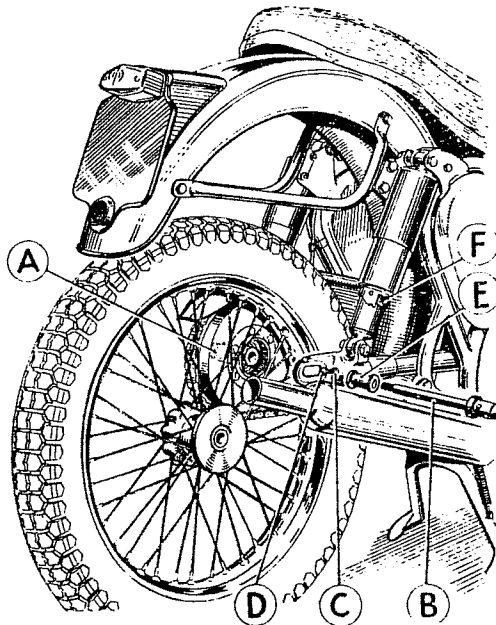

Fig. A31d. Rear wheel removal.
Removal of the wheel does not affect the chain or brake adjustment. Remove the spindle (B) Fig. A31d, it has a normal right-hand thread and therefore unscrews in an anticlockwise direction. The distance bush (E) falls clear when the spindle is removed and the wheel can then be pulled away from the brake drum and withdrawn from the machine.
First put the machine on its centre stand. Whenever the rear wheel is adjusted, the nut securing the torque to the brake plate must be slackened slightly so that the plate may pivot freely. Undo the spindle (B) Fig. A31d, on the right-hand side of the machine, a few turns, and slacken nut (A) just sufficiently to allow the wheel to move.